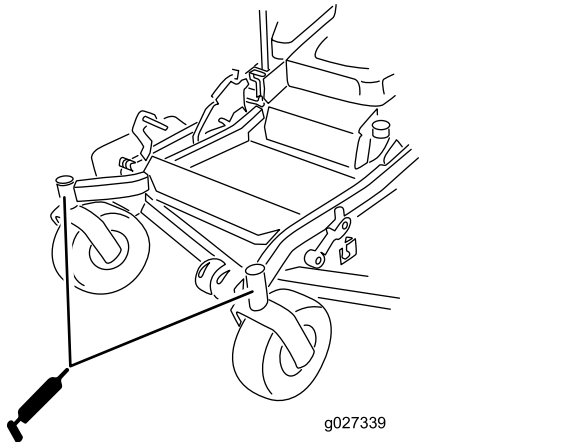

Figure 46
12. Install the hex plug and dust cap (Figure 46).
13. Grease the caster-wheel bearings (Figure 46).